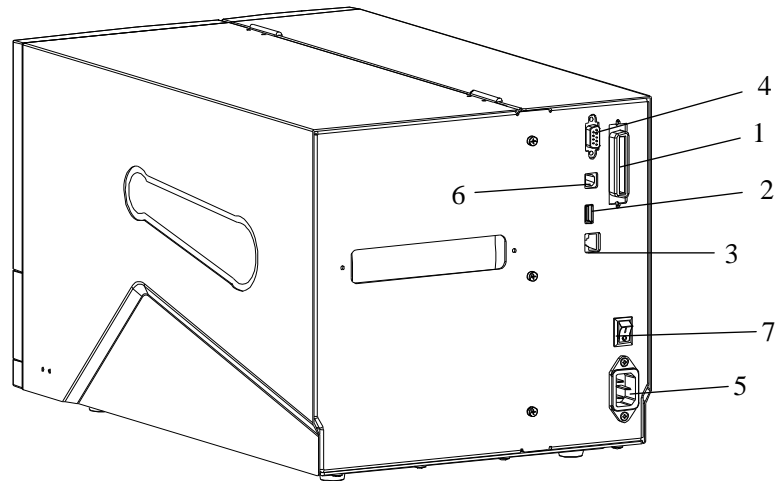

**Figure 2-2(b)**
**Note:** Figure 2-2(a) shows the detailed structure of TX2.